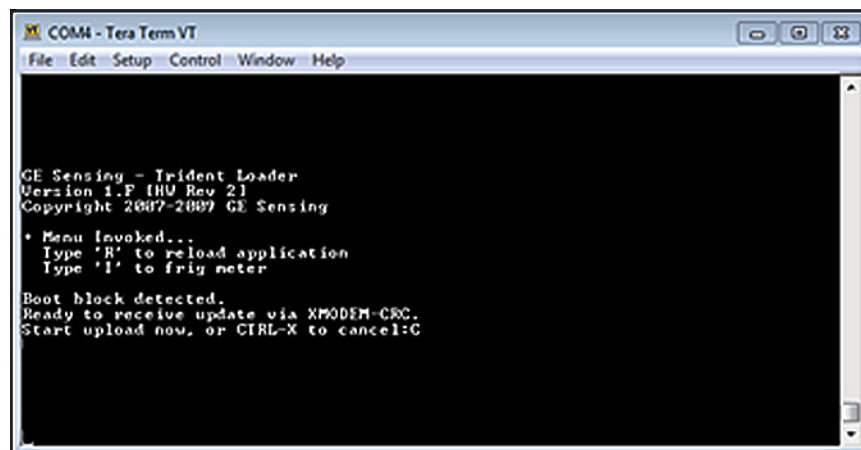

Figure 12: Tera Term Indicates Meter is Ready to Receive Update
2. Press **R** (not case sensitive) using your PC keyboard and the *Tera Term* terminal window indicates that the meter is ready to receive the update via XMODEM-CRC (see *Figure 12* below). Select *File*, *Transfer*, *XMODEM*, and *Send* in the subsequent drop-down menus.